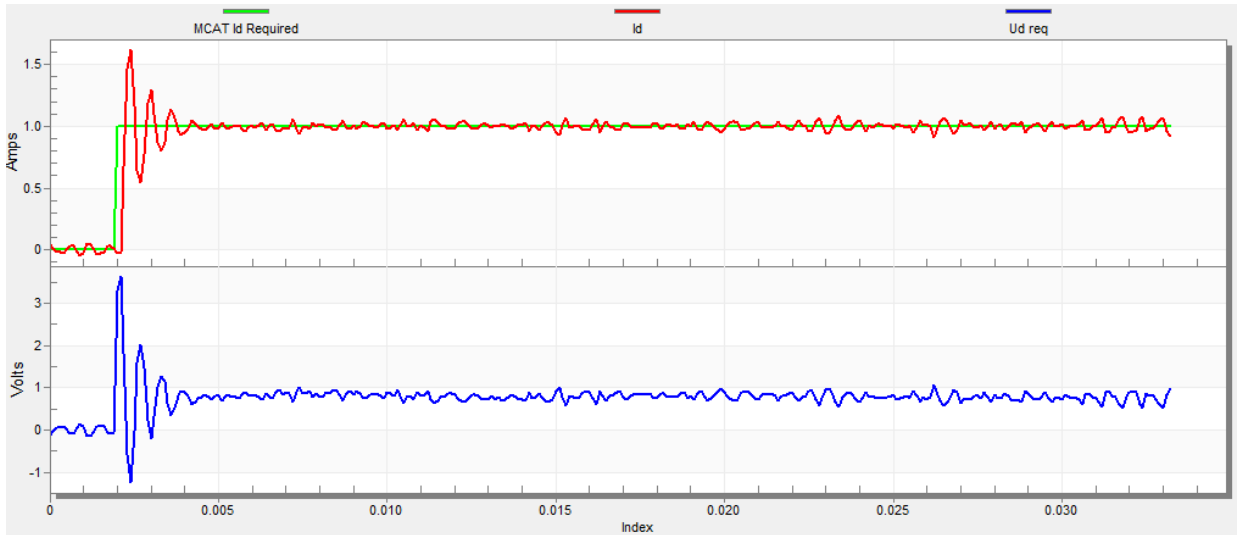

Figure 46. Fast step response of the Id current controller
- The loop bandwidth is high (700 Hz) and the response time of the Id current is very fast, but with oscillation and overshoot (see Figure 46).